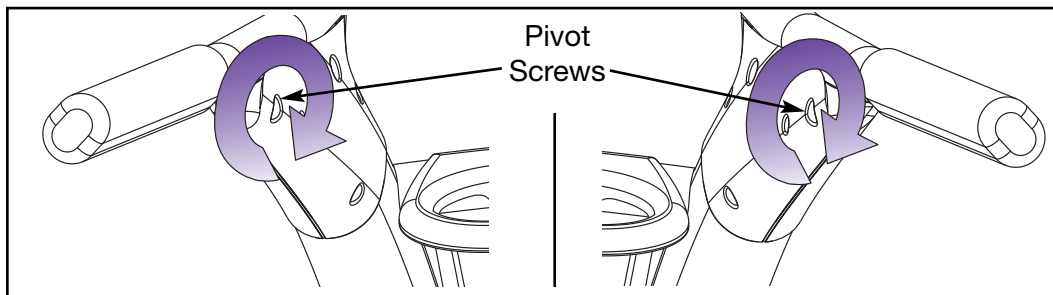

Figure 8
- B.** Using the hex key provided, tighten the two pivot screws on the handrail. See Figure 8.